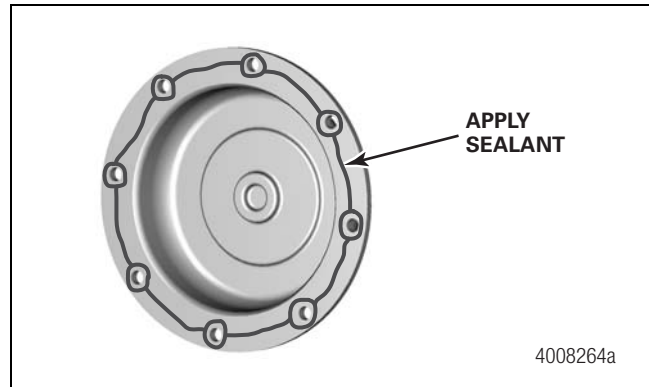

Figure 14.5
12. Apply a 1/8-inch bead of gray sealant to the hub cover and place it onto the hub. Figure 14.5.